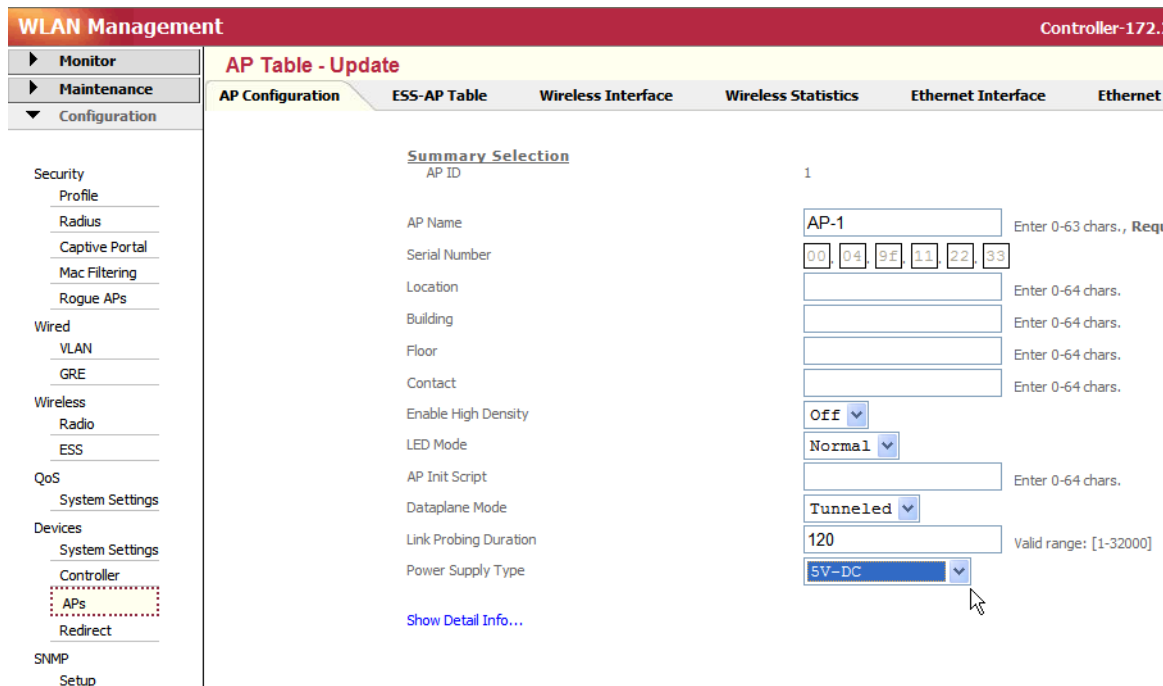

Figure 10: Changing Power Supply Type
- Click the arrow that corresponds to the AP300 to change. The AP configuration for that AP is displayed. See Figure 10.